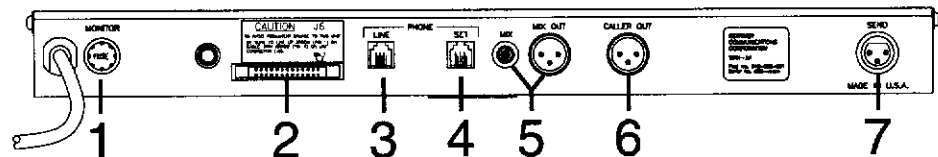

Figure 7. Back-panel connectors
1. *Monitor*. This is a 1/4" tip-ring-sleeve phone jack (Figure 7, below). This output will drive a 2W speaker and is used to listen to the caller without having to wear a headset.
Connect a speaker or a headset between the tip-ring and the sleeve [2] (Figure 7, previous page).